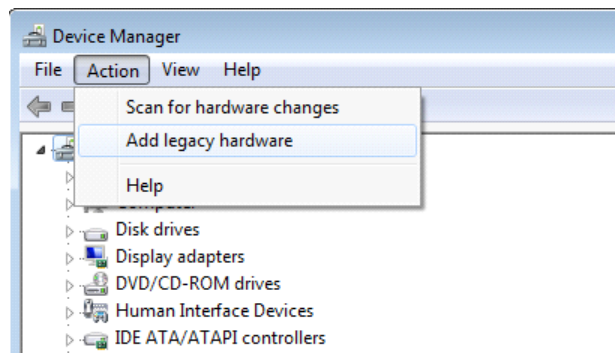

Figure 31 Adding Legacy Hardware
- d. Start the “Add legacy hardware” process from the “Action” menu as shown in Figure 31.